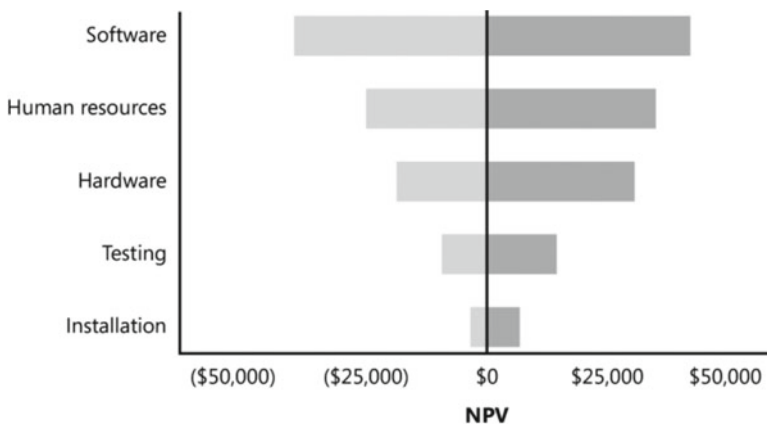

Figure 9-7. An example of tornado diagram showing how different risks may impact the project's net present value
- *Tornado diagrams*: Often used to present the results of sensitivity analysis. A tornado diagram is a histogram or bar chart where the data categories are listed vertically instead of horizontally, with the largest category at the top and the other categories in order of descending size, giving the diagram the appearance of a tornado. Figure 9-7 shows an example of a tornado diagram presenting the results of sensitivity analysis to show which parts of the project are most sensitive to risk, judged by the quantitative impact they will have on the net present value (NPV) of the project.